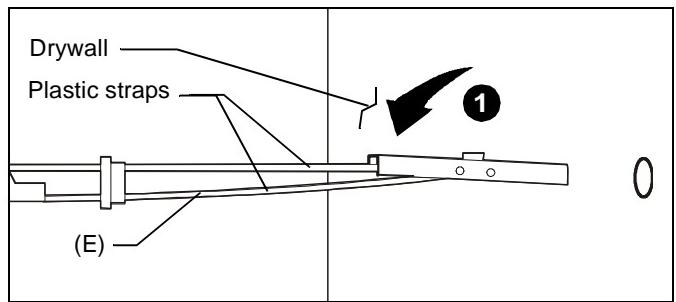

Figure 20
1. Hold metal channel on anchor (E) flat alongside plastic straps and slide channel through hole. (See Figure 20)